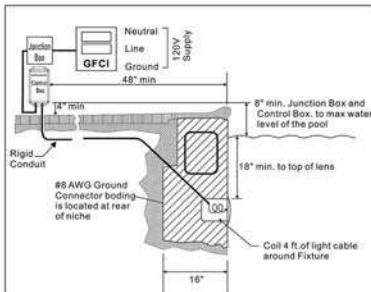

Figure 1
2. The junction box (or, for 12 volt models, the low voltage transformer) must be located at least eight(8) inches above water level, at least four (4) inches above ground level, and at least four (4) feet from the edge of the pool. See Figure 1.
3. The light fixture and all metal items within five(5) feet of the pool must be properly electrically bonded to a reliable point of grounding.
4. The wet niche must be properly installed so that the top edge of the underwater light's lens is at least 18 inches below the surface of the water in the pool. See Figure 1.
5. The wet niche must be properly electrically bonded and grounded via the No. 8 AWG ground connector located at the rear of the niche. See Figure 1.
1. Feed cord through conduit to junction box, leaving at least four (4) feet of cord at the light fixture to coil into the base of the light niche, see Figure 1. The four (4) feet of cord allows the light to be serviced after the pool is filled with water.
2. Cut the cord at the junction box, leaving at least six (6) inches of cord to make connections.
2. The lighting circuit must have a Ground Fault Circuit Interrupter (GFCI) for Controller. The junction box (or, for 12 volt models, the low voltage transformer) must be located at least eight(8) inches above water level, at least four (4) inches above ground level, and at least four (4) feet from the edge of the pool. See Figure 1.
3. The light fixture and all metal items within five(5) feet of the pool must be properly electrically bonded to a reliable point of grounding. The wet niche must be properly installed so that the top edge of the underwater light's lens is at least 18 inches below the surface of the water in the pool. See Figure 1. The wet niche must be properly electrically bonded and grounded via the No. 8 AWG ground connector located at the rear of the niche. See Figure 1.
4. Feed cord through conduit to junction box, leaving at least four (4) feet of cord at the light fixture to coil into the base of the light niche, see Figure 1. The four (4) feet of cord allows the light to be serviced after the pool is filled with water.
5. Cut the cord at the junction box, leaving at least six (6) inches of cord to make connections.